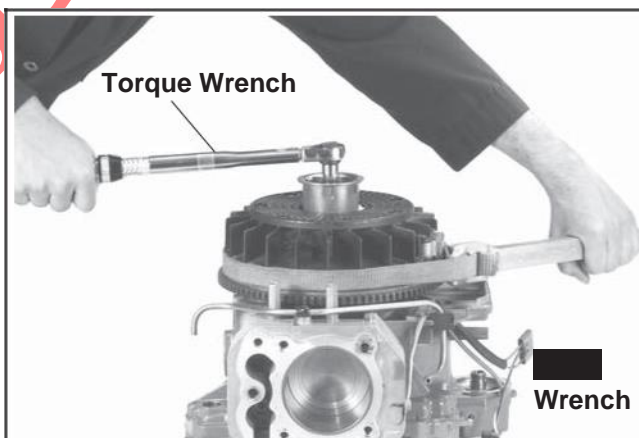

Figure 11-31. Torquing Flywheel Fastener (Retractable Starter Models).
4. Hold the flywheel with a strap wrench or holding tool (see Section 2) and torque the hex. flange screw to **66.4 N·m (49 ft. lb.)**. See Figures 11-31 and 11-32.